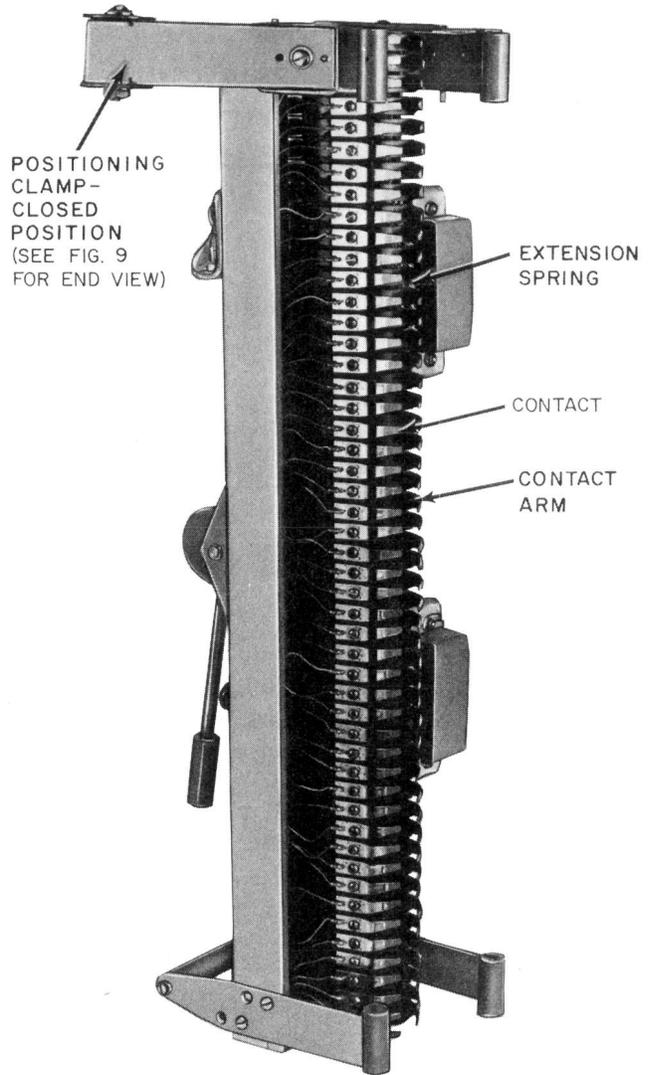

Fig. 2—B Test Connector-Rear View
3.12 The B test connector is readied for placing on C-50 and similar-type protectors by grasping the handle at the lower end of the connector with the left hand, and moving the cam lever fully upward with the right hand until latched. This will open the contacts. The positioning clamps are extended or rotated from the closed position shown in Fig. 2 to the open position.
3.20 Remove the cords by unscrewing the jack screws on them. Turn screws simultaneously until the plugs come away squarely from the connectors. Move the lever on the B test connector to the latched position. Grasp the lifting handle at the bottom of the connector. Open the clamps at the top of the connector, and move the test connector horizontally outward away from the protector. With the test connector standing vertically, move the lever downward again closing the contacts. The positioning clamps should then be returned to the position shown in Fig. 2.